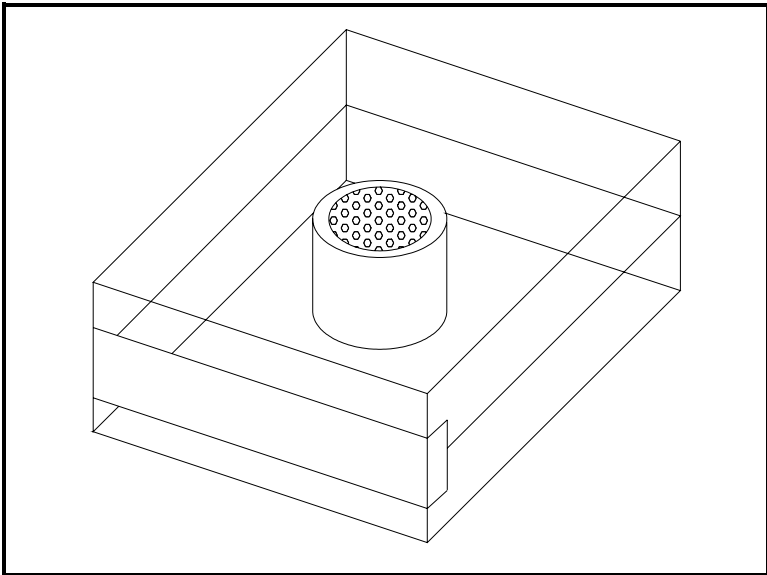

Figure 3: Packaged Oxygen Sensor
1. Remove the O2X1 transmitter and the separately-packaged oxygen sensor (see Figure 3 below) from the shipping container. Keep the shipping container and packaging material for possible future use.